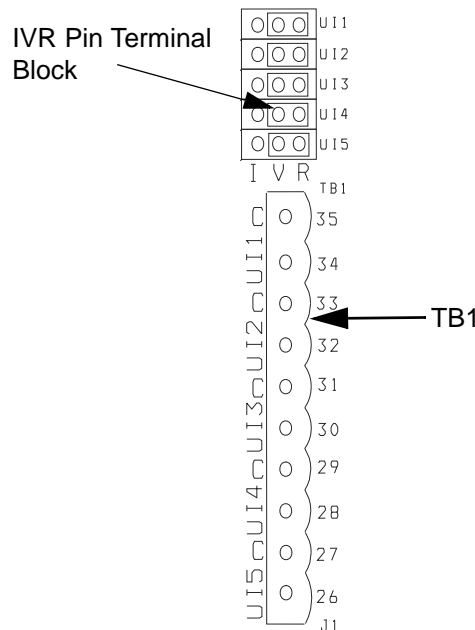

Figure 1-1: The IVR Pin Terminal Block Located Above TB1
1.2.1 UNIVERSAL INPUTS (UI)
The Universal (analog) Inputs at Terminal Block 1 are high resolution (15-bit) UIs that can accept 0-20mA (DC) when in *current mode*, 0-1M Ω inputs when in *resistance mode*, or 0-10VDC when in *voltage mode*. A capacitor in the circuit provides a 10Hz low-pass filter. Overrange protection is provided to clamp normal overrange conditions and to protect against damage from electrostatic discharge (ESD). Input modes are selected by positioning a jumper on the current, voltage, and resistance (IVR) pin-terminal block located adjacent to TB1 (refer to Figure 1-1). When the I and V pins are jumpered together, the UI is in current mode. When the R and V pins are jumpered together, the UI is in resistance mode. Use resistance mode for dry contact digital inputs. If there is no jumper, the UI is in voltage mode. The UIs can be configured for alarming, setup/setback, filtering, and input polarity. UIs can be used as a universal input, as the proof of flow input, as a motion detection input, or as the duct temperature input.